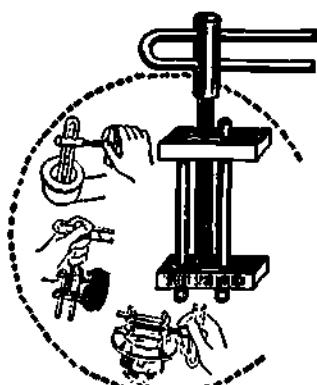

Figure 1-138. Spud Wrench
c) The spud wrench shown in Figure 1-138 is handy for internally gripping closet spuds, flush valves, trap bushings, push nipples, sink strainers, PO plugs, and wastes and overflows.